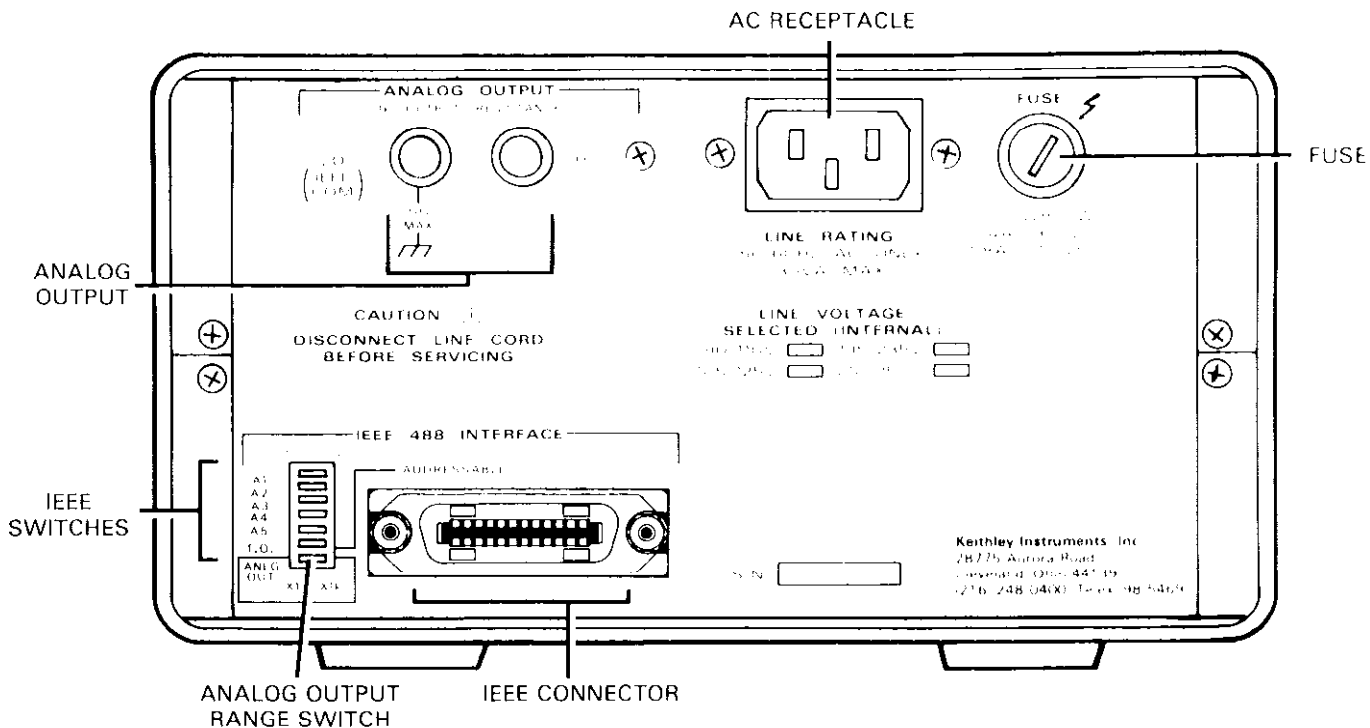

Figure 2-3. Rear Panel Controls and Connections
5. Rear Panel Controls and Connections. The rear panel controls and connections are shown in Figure 2-3. An analog output is available through the two 5-way binding posts. The switches and connector shown in the lower left corner are for use with the IEEE-488 bus. The functions and operation of these connectors and switches will be covered in more detail in later paragraphs.
2. Select the X1 or X1000 range by using the analog output gain switch on the rear panel. This switch is combined with those used to set the IEEE mode in the lower left corner of the rear panel and is clearly marked. (See Figure 2-3.) In the X1 position, the most significant ± 2000 counts of the display reading can be covered, while the X1000 position will change the range to cover the least significant ± 2000 counts. In this manner, the entire $6\frac{1}{2}$ digits of the display may be represented.